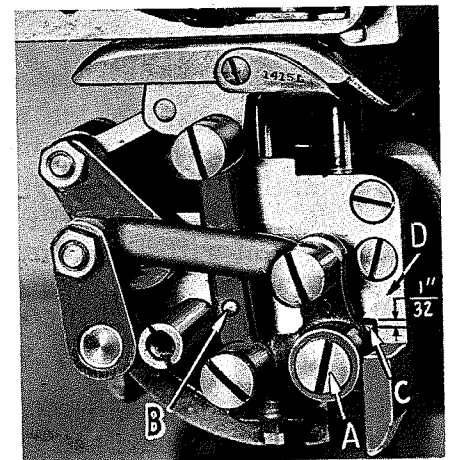

Fig. 10
To make this adjustment, loosen the screw (A, Fig. 10) and, with the right hand, hold the feed plate against the presser foot. Then, by holding feed link (B) with the left hand, push down feed point until there is $1/32$ inch clearance between the block (C) and the plunger bearing block (D). Then, retighten screw (A).
Turn handwheel in operating direction until the feed point reaches its highest position and check to see that the feed point is in the center of the slots in the feed plate. If the feed point is not in proper alignment, loosen screw (A, Fig. 10) and turn the feed plate to align the feed point in the slots. Retighten screw (A).